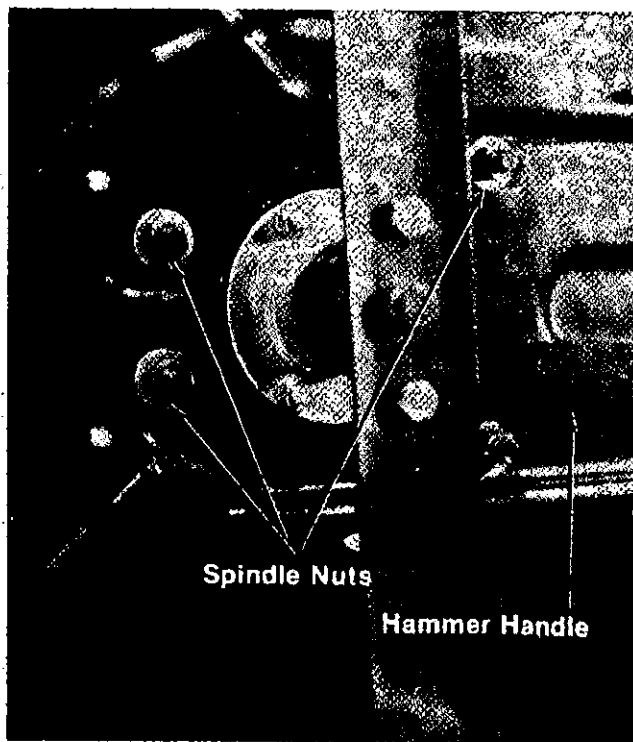

FIGURE 40.
3. Loosen the four spindle nuts. See figure 40.
1. Loosen the four spindle nuts on the bottom of the cutting deck. See figure 40.